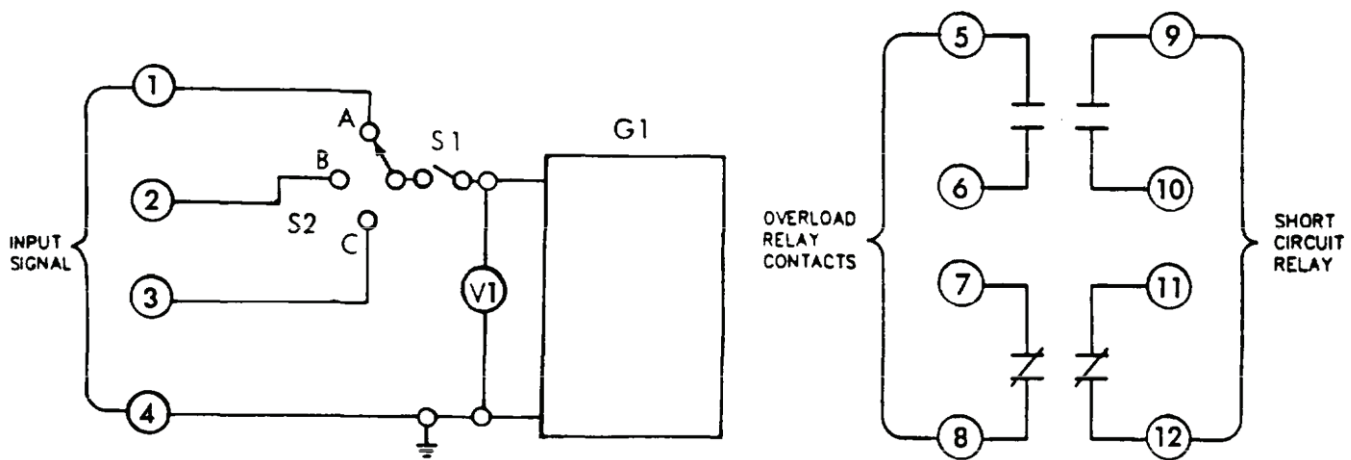

Figure 1. Test Circuit.
WP 0043, Figure 1, Item 47
5. Install relay in test circuit (Figure 1)